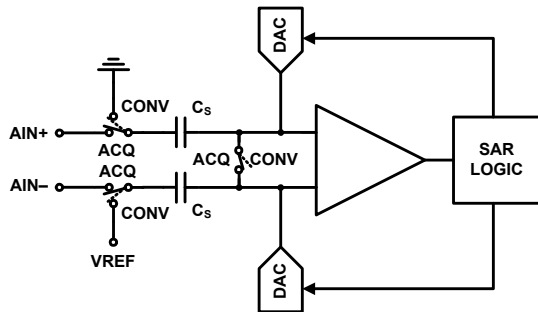

FIGURE 24. SAR ADC ARCHITECTURAL BLOCK DIAGRAM
The ISL26712/10/08 are based on a successive approximation register (SAR) architecture utilizing capacitive charge redistribution digital-to-analog converters (DACs). Figure 24 shows a simplified representation of the converter. During the acquisition phase (ACQ), the differential input is stored on the sampling capacitors (CS). The comparator is in a balanced state since the switch across its inputs is closed. The signal is fully acquired after  $t_{ACQ}$  has elapsed and the switches then transition to the conversion phase (CONV) so the stored voltage may be converted to digital format. The comparator will become unbalanced when the differential switch opens and the input switches transition (assuming that the stored voltage is not exactly at mid-scale). The comparator output reflects whether the stored voltage is above or below mid-scale, which sets the value of the MSB. The SAR logic then forces the capacitive DACs to adjust up or down by one quarter of full-scale by switching in binarily weighted capacitors. Again, the comparator output reflects whether the stored voltage is above or below the new value, setting the value of the next lowest bit. This process repeats until all 12 bits have been resolved.